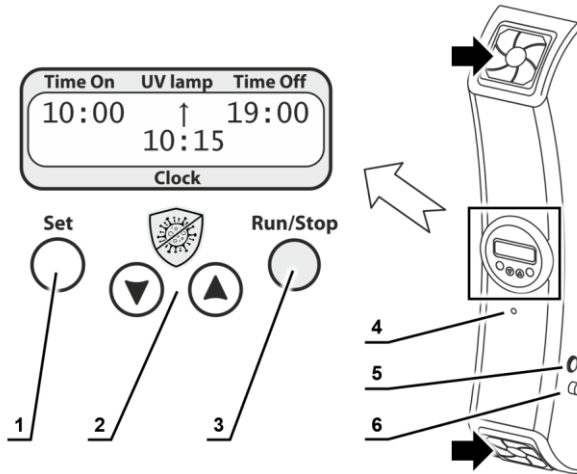
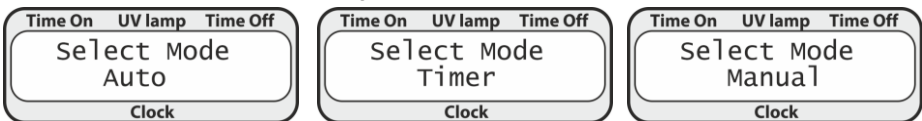

Figure 5. UVR-Mi control panel and front view
Figure 6. Choosing the mode.
5.2.1 Plug the power cord to a grounded mains socket. Switch on the power switch (fig. 5/5) on the side to the right. Display shows the default screen.
5.2.2 To start or stop the recirculation manually at any time, press the **Run/Stop** key (fig. 5/3). The ↑ icon appears in the middle of the top line, and the indicator below the control panel lights up (fig. 5/4).
5.2.3 **Parameter setting.** To set up the parameters, press and hold the **Set** key (fig. 5/1) for 8 seconds. You will be prompted to choose between the three modes (figure 6).
- **Timer mode.** Recirculator has a timer in this mode. Switched on and idle unit can be started with one press of the **Run/Stop** key (fig. 5/3), and automatically ends recirculation when the timer expires.
- 5.2.4 Choose the mode using the ▼ and ▲ keys (fig. 5/2), then press **Set** to accept. Display switches to parameter setting, which is unique to each mode, see below.